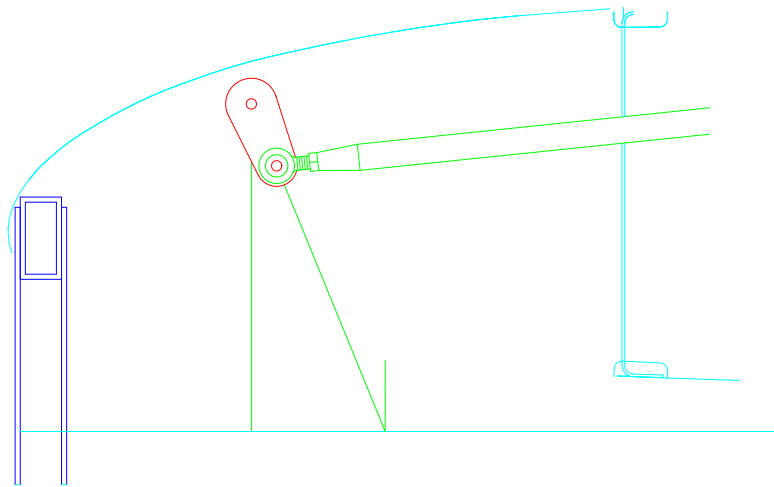

Figure 15.15.5
- 9) Set the forward Horn on the same line as the diagonal line drawn earlier. Figure 15.15.5.